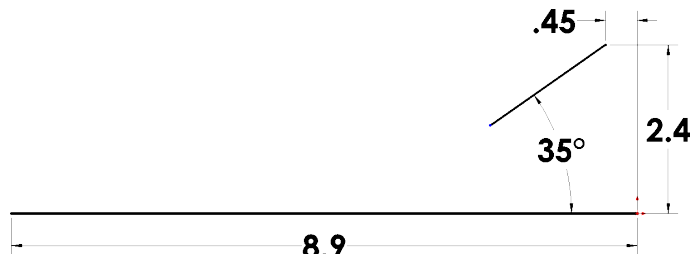

Fig. 3
Step 5. Click **Smart Dimension**  (S) on the Sketch toolbar.
Step 6. Add dimensions, **Fig. 3**.
Step 7. Click Zoom to Fit  (F) on the View toolbar.